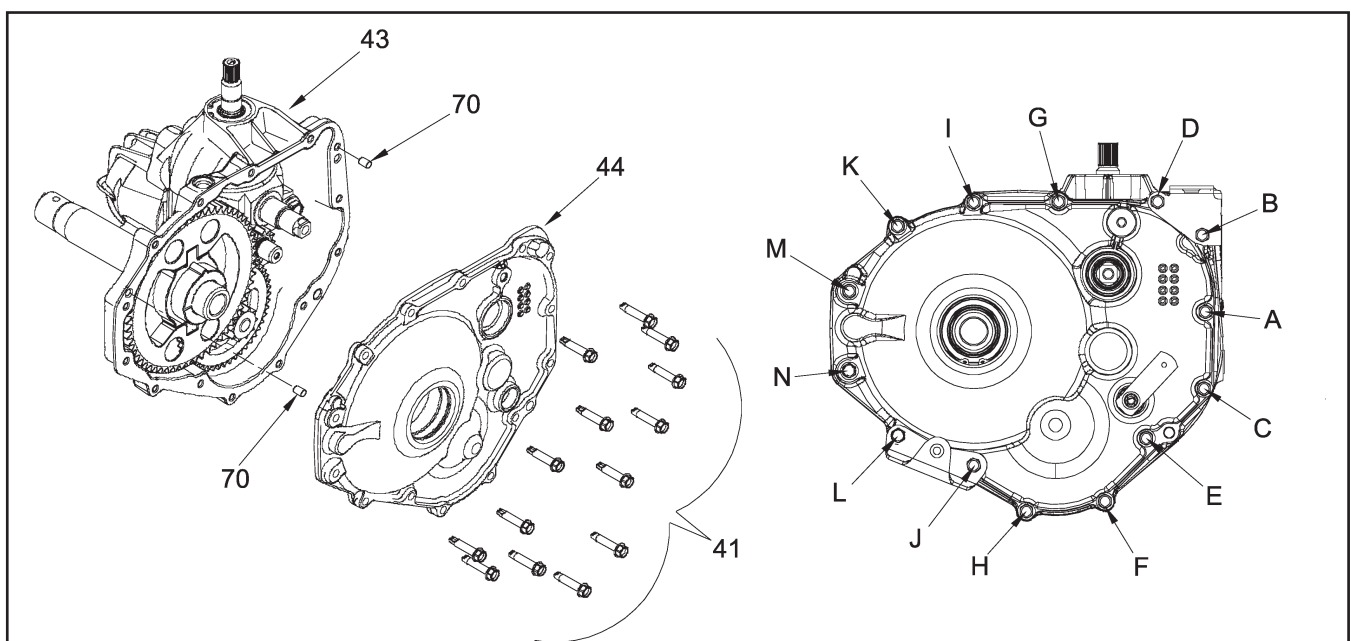

Figure 7. Side Housing Assembly
Refer to Figure 7.
3. After all of the oil has been removed from the transaxle, remove the housing screws (41).
4. Pull the side housing (44), leaving the axle assembly (49, page 16) in the main housing. It may be necessary to use screwdrivers at the pry points to break loose the sealant (positions E-F, H-J and K-M, Figure 7).
2. Install the locating pins (70), if not already installed.
3. Install the side housing (44) while aligning the bypass rod into its side housing bore. Use care not to smear the sealant bead.
4. Install the side housing screws (41). Refer to the screw tightening pattern in Figure 7 and torque specification in Table 5 on page 12.